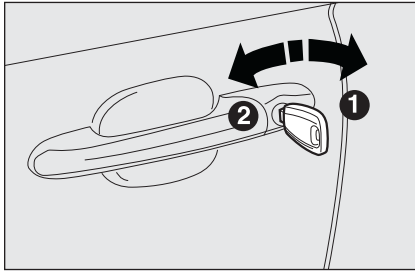

fig. 43
**To open**, insert the key in the lock and turn it to the position **1**-fig. 43. When the key is turned the doors and the tailgate are simultaneously released.
**To lock**, insert the key in the lock and turn it to the position **2**-fig. 43. When the key is turned the doors and the tailgate are simultaneously locked.